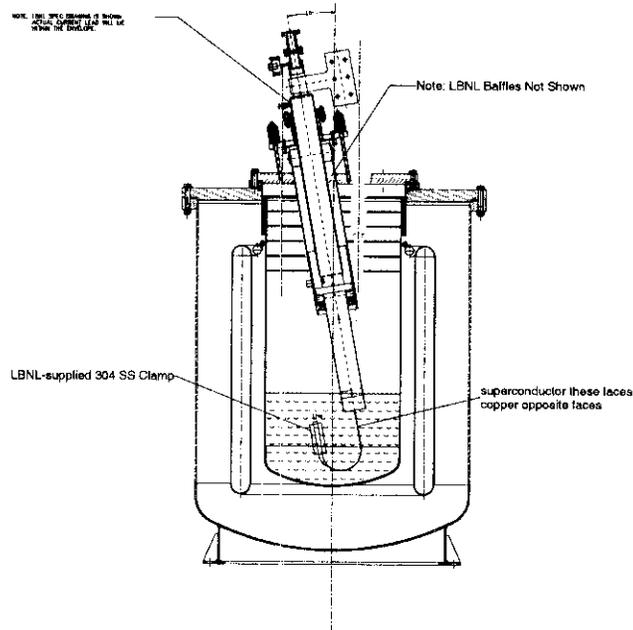

Figure 4.3a Side View of Lead in Cryostat with the LTS cables connected.
- 4.3** Make connection to LTS pigtails. The joint is a mechanical connection with a stainless steel clamp (supplied by LBNL) and indium foil between the cables to ensure good electrical contact. Figure 4.3a shows a rendition of the installed power leads. Figure 4.3b shows the G-10 clamshell clamp, the clamp support, and the mechanical clamp.